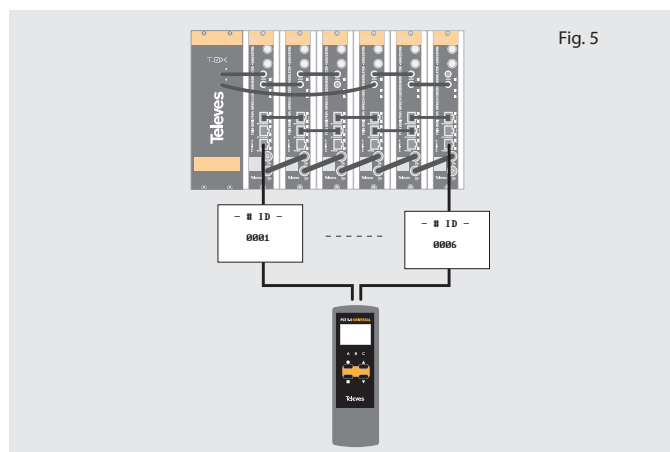

Fig. 5
5. Connect the programmer to each unit and set a unique number in the "# ID" field according to the order of installation of the units in the rack (Figure 5).